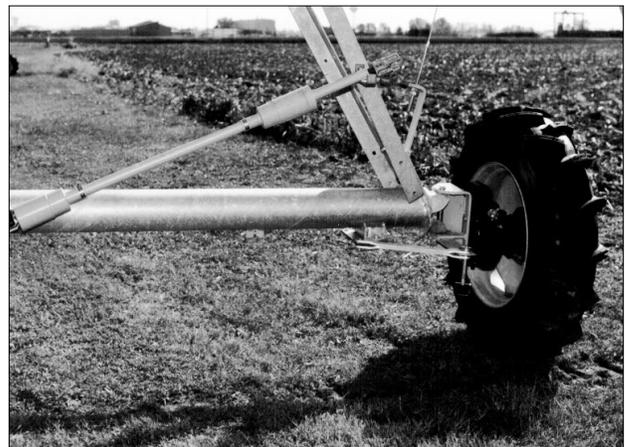

Figure 29-3 TOWING POSITION SHOWN
10. Lower the drive unit and remove the jack. The tire is now in the tow position. See figure 29-3.